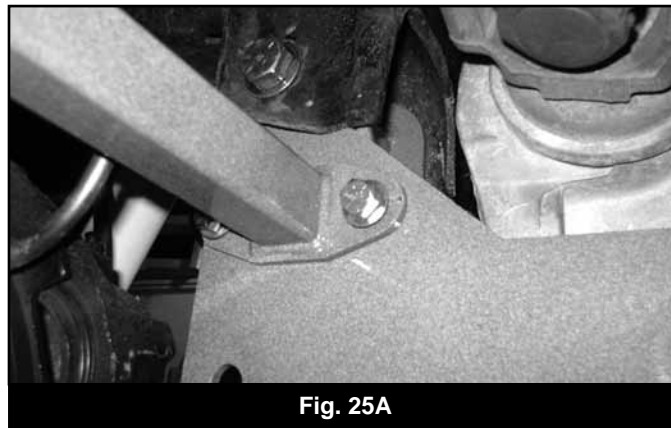

Fig. 25A
45. Attach the new supplied compression struts to the rear crossmember. Position the struts so the opposite end sets flat to the transmission crossmember. (Fig 25B) Fasten the compression struts to the rear crossmember with 3/8" x 1-1/4" bolts, washers, and nuts. Snug hardware so the compression struts are squared up to the back of the crossmember. (Fig 25A)